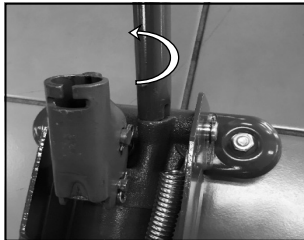

fig 5.
1. Use the handle assembly to twist the release valve 1-1/2 turns counter-clockwise (fig.5).
6. SLOWLY twist jack handle assembly counter-clockwise (fig 5) to ease vehicle down onto jack stands.